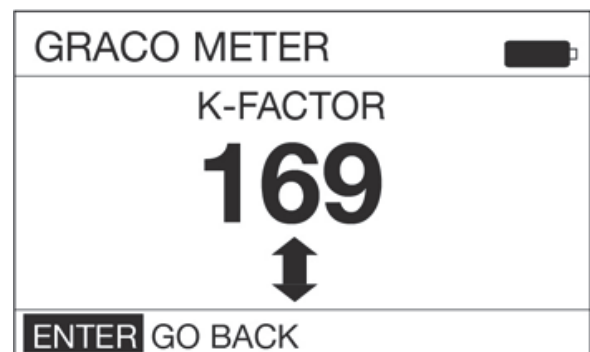

FIG. 30
10. Note the current k-factor is displayed. In the example shown in FIG. 30 the k-factor is 169.